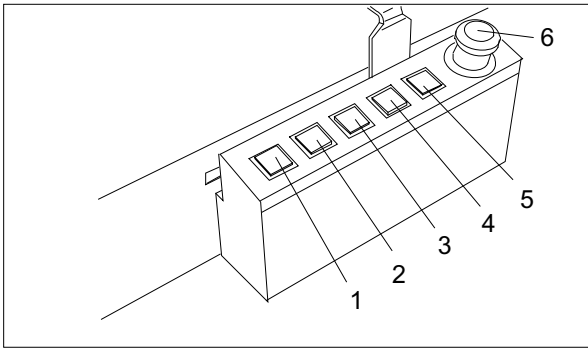

Fig. 89 Operator panel
- Fig. 89/1 High speed for removal of sample sheets
- Fig. 89/2 Increasing the gap between slitter shafts and delivery rollers
- Fig. 89/3 Reducing the gap between slitter shafts and delivery rollers
- Fig. 89/4 Motor/Drive for folder on/off
- Fig. 89/5 Sheet feed on/off
- Fig. 89/6 Emergency stop